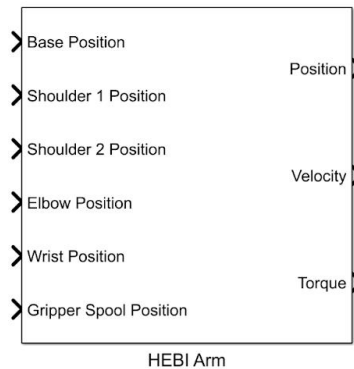

Figure 2: HEBI Arm Subsystem Block
1. Obtain the HEBI_5DOF_Gripper.zip from Canvas and extract the folder. Within the folder, open the HEBI_5DOF_Gripper.slx file, this should open a premade Simulink file with a primary system block as shown in figure 2.